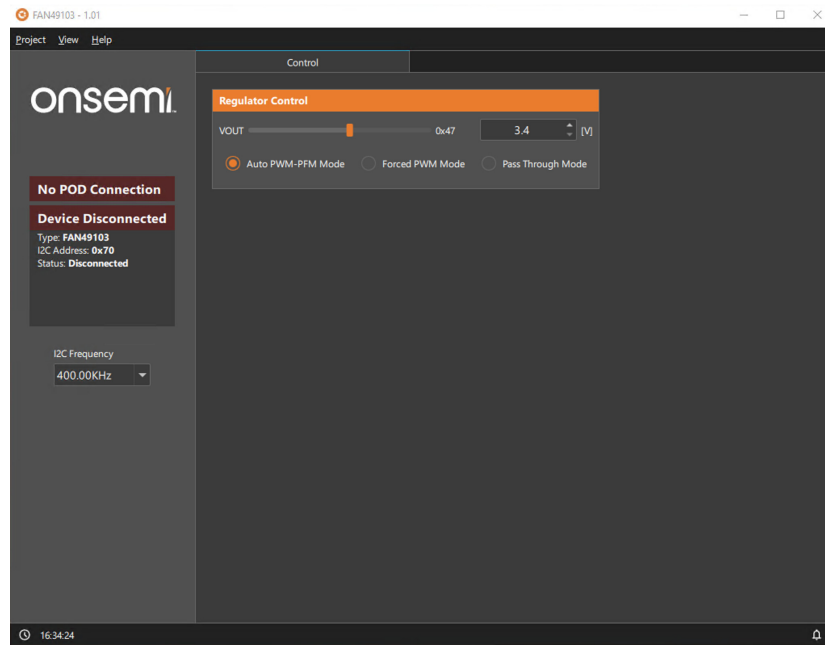

Figure 8. No POD Connection
c. If POD is disconnected, it will show No POD Connection as shown in Figure 8.